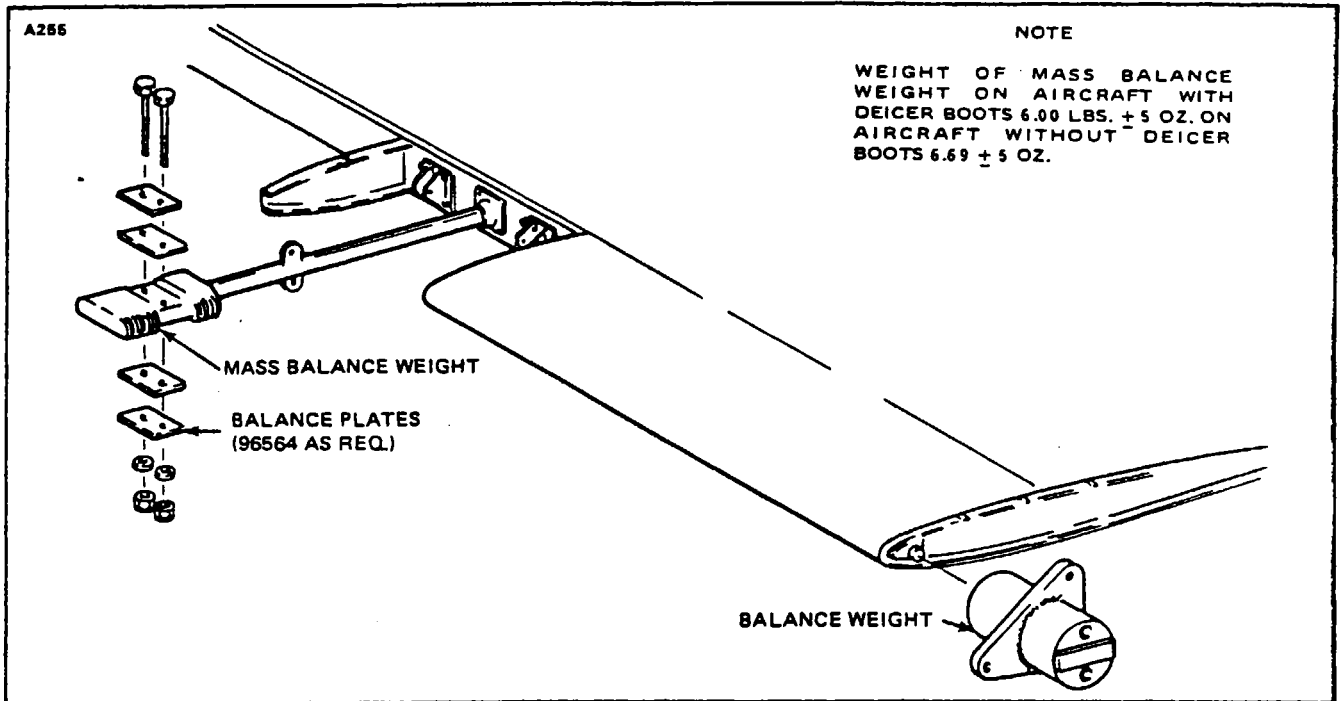

Figure 4-20. Stabilator Balance Configuration
*With or without deicer boots installed. See Figure 4-20.
4-78. **BALANCING STABILATOR.** (Refer to Figure 4-20.) To balance the stabilator, the assembly must be complete including the trim tab, the tab push rod and end bearing, stabilator tips and all attaching screws. Before balancing, tape the trim tab in neutral position with a small piece of tape. Place the complete assembly on the knife edge supports in a draft free area in a manner that allows unrestricted movement. Place the tool on the stabilator with the beam perpendicular to the hinge centerline. Do not place the tool on the trim tab. Calibrate the tool as described in Paragraph 4-75. Read the scale when the bubble level has been centered by adjustment of the movable weight and determine the static balance limit. If the static balance is not within the limits given in Table IV-II, proceed as follows: